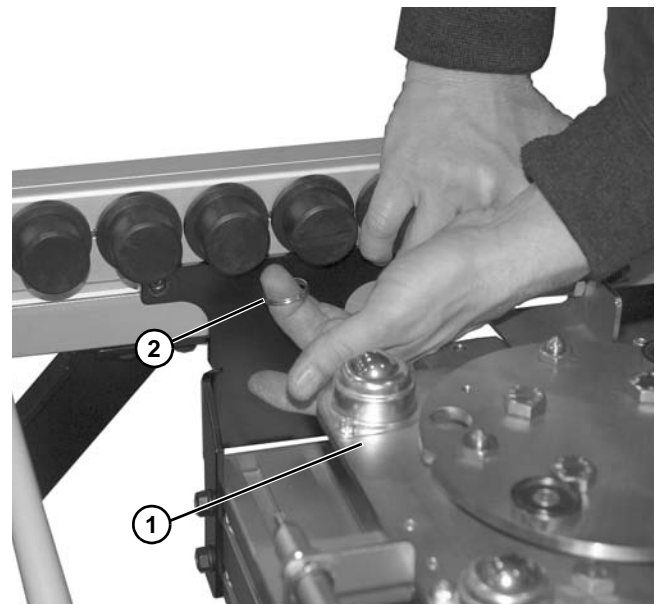

Figure 50
2. Raise lift and rotate station (**Figure 50, item 1**) into position from under the conveyor, lining up center pin (**Figure 50, item 2**) in slotted channel of conveyor channel. Repeat on opposite side.